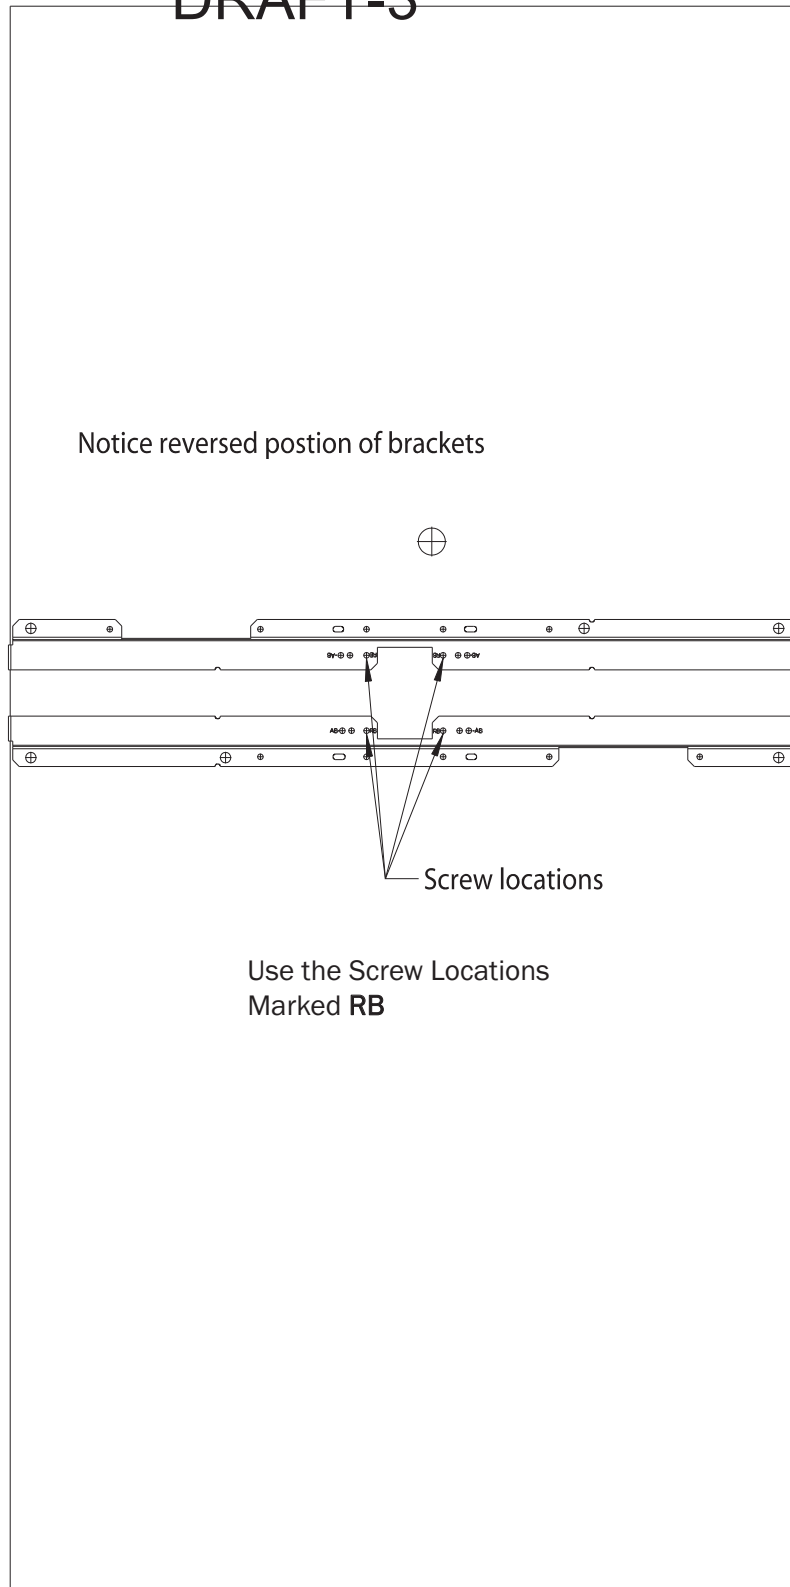

Figure 2-19: RA Below Ceiling Tile Mounting Rail Screw Locations
4. Mark the location of the **RB** screw holes in the mounting rails on the ceiling tile where the holes will be drilled through the tile as shown in Figure 2-19. Drill four .25-inch (6 mm) diameter holes in the ceiling tile.